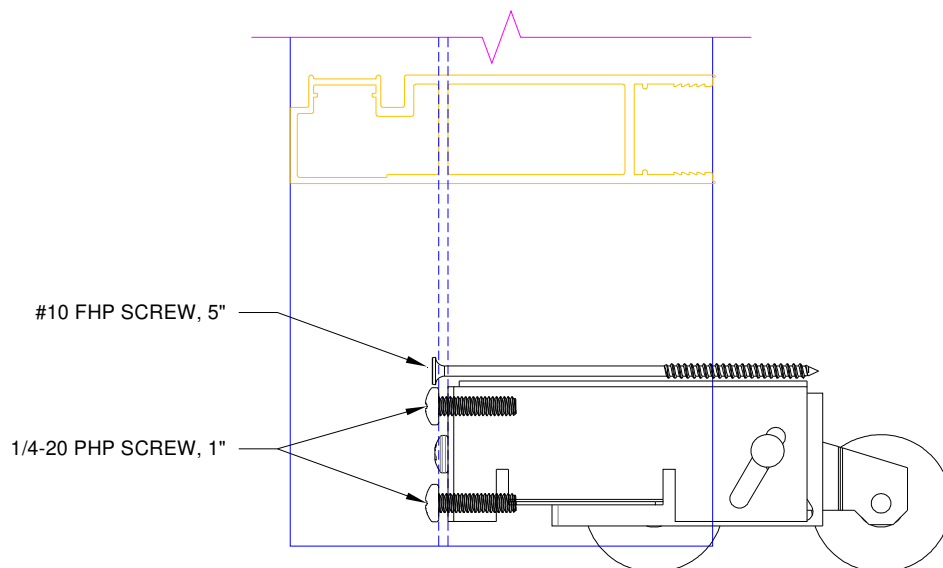

Figure A1:
2. Attach the roller to the 90° lead stile using the following fasteners from the red bag (see Figure A1):